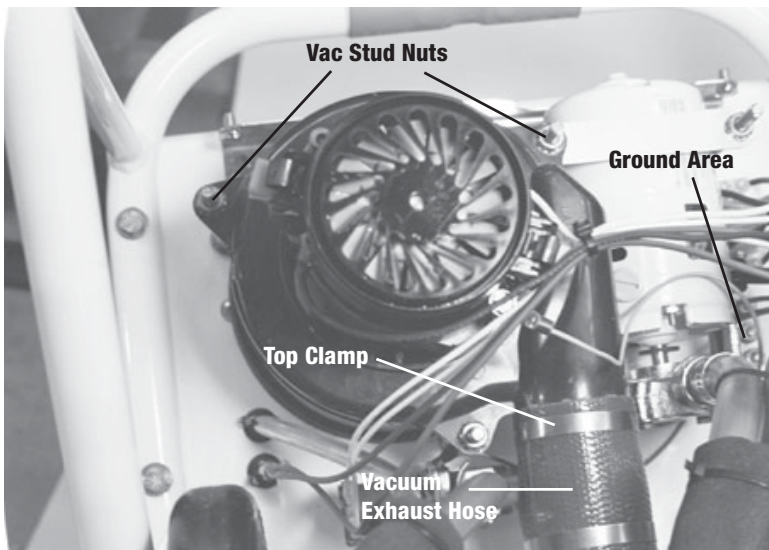

Figure 14
3. Loosen top clamp on vacuum exhaust hose (fig. 14).
4. Remove three vacuum stud nuts (fig. 14).
5. Remove the vacuum motor's ground wire from the machine's ground (fig. 14).